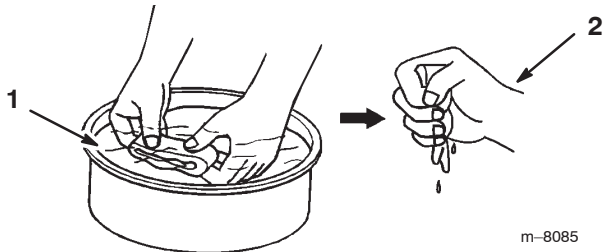

Figure 20
1. Wash the foam element in warm, soapy water or nonflammable solvent. Squeeze the element, but do not twist, and allow it to dry thoroughly (Fig. 20). Do not use gasoline as a cleaning solvent.